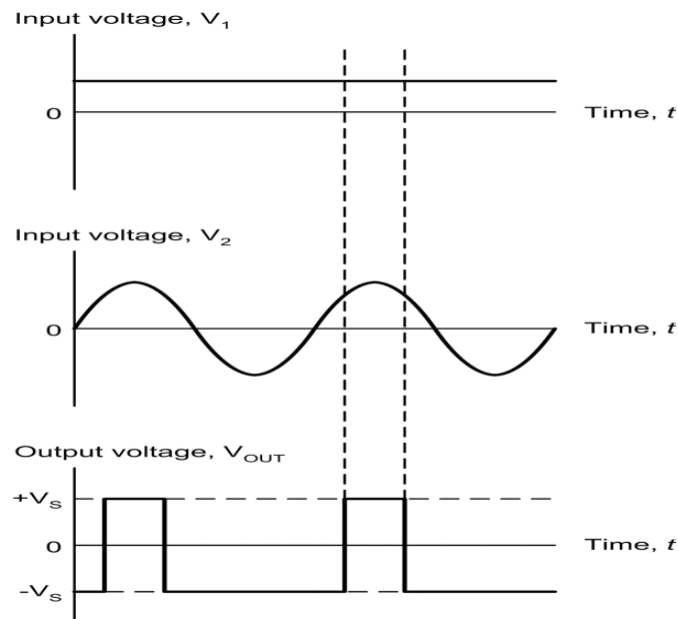

Figure 1.47 Typical input and output waveforms for a comparator
- Typical input and output waveforms for a comparator are shown in Fig. 1.47.
- The frequency of oscillation of the circuit shown in Fig. 1.47 is given by: